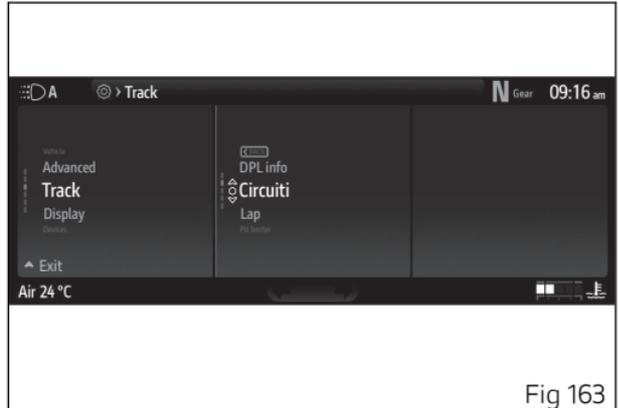

Fig 163
- Select the "Circuits" item (Fig 163) and press  .